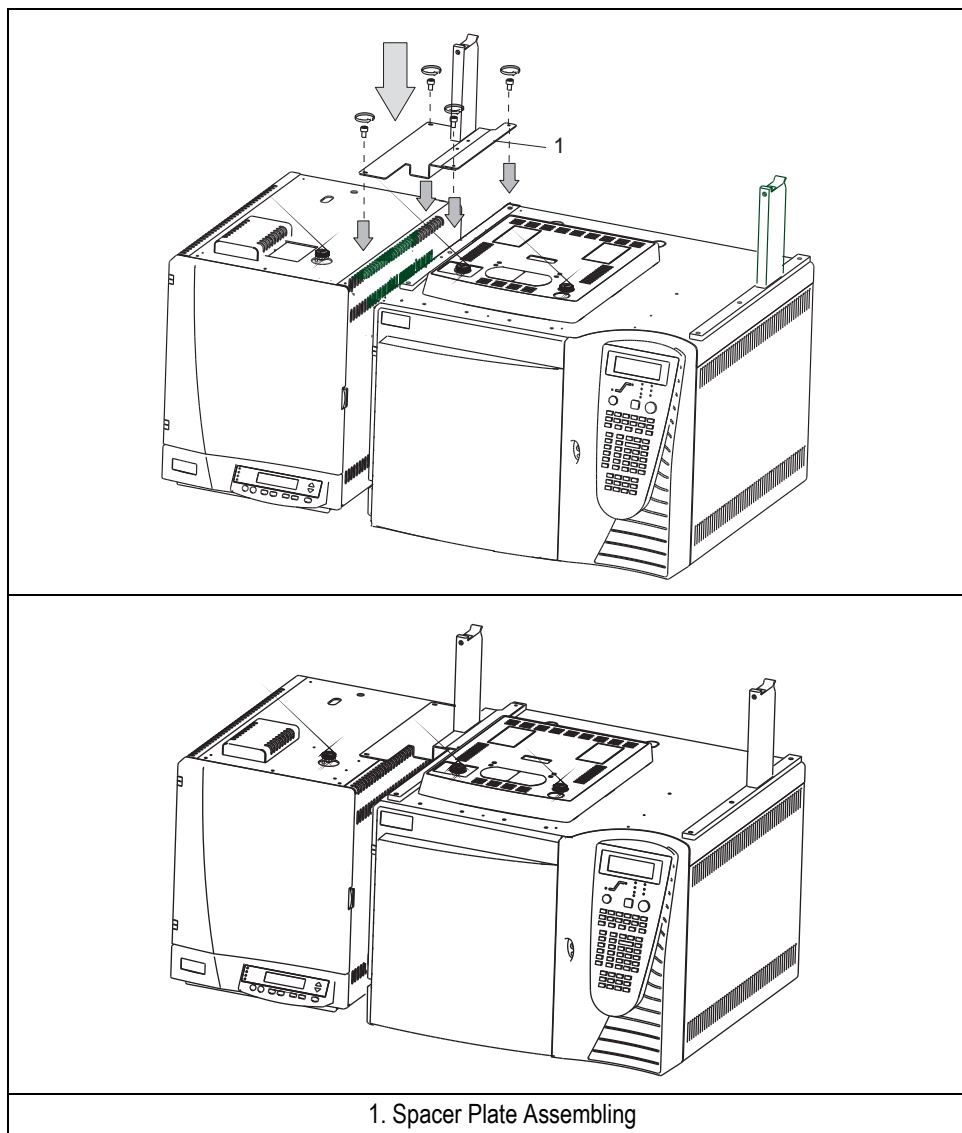

Figure 3-15. Mounting of the Spacer Plate Assembling
10. Mount the spacer plate assembling on the two GC units as shown in Figure 3-15.